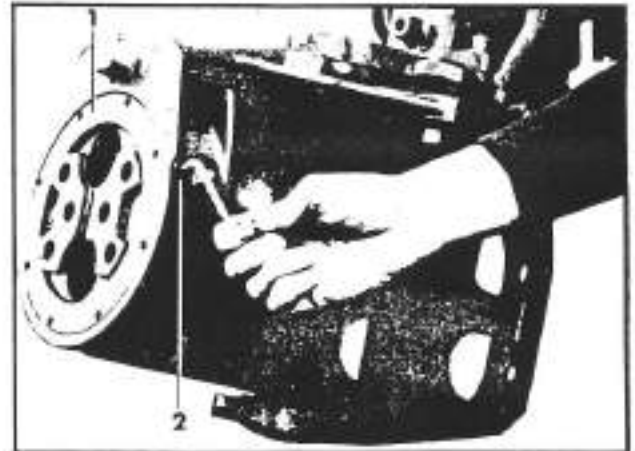
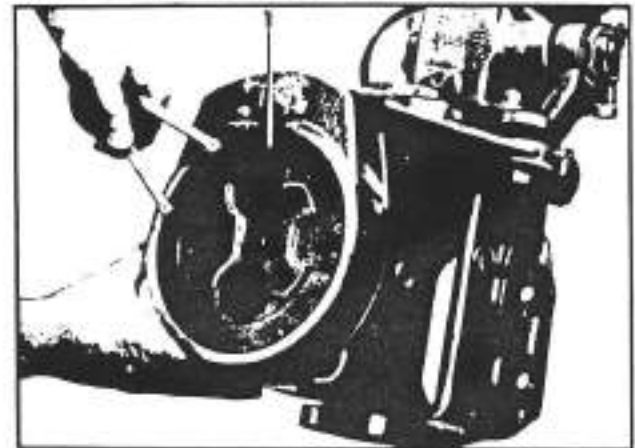

Fig. 3-40. Preliminary operation - removal of the threaded ring
Fig. 3-41. Removal of the threaded ring
- d. Operating as indicated in figure 3-40, loosen the lock nut (2; fig. 3-40) then remove the set screw that retains the threaded ring (1). Take off the threaded ring (1) as shown in figure 3-41.
Pay attention, when removing the threaded ring, (1; fig. 3-41), not to lose the balls placed in its seat.
- Before tightening the set screw (see figure 3-40) of the threaded ring, ascertain that the threaded ring is securely bedded and that no play exists.